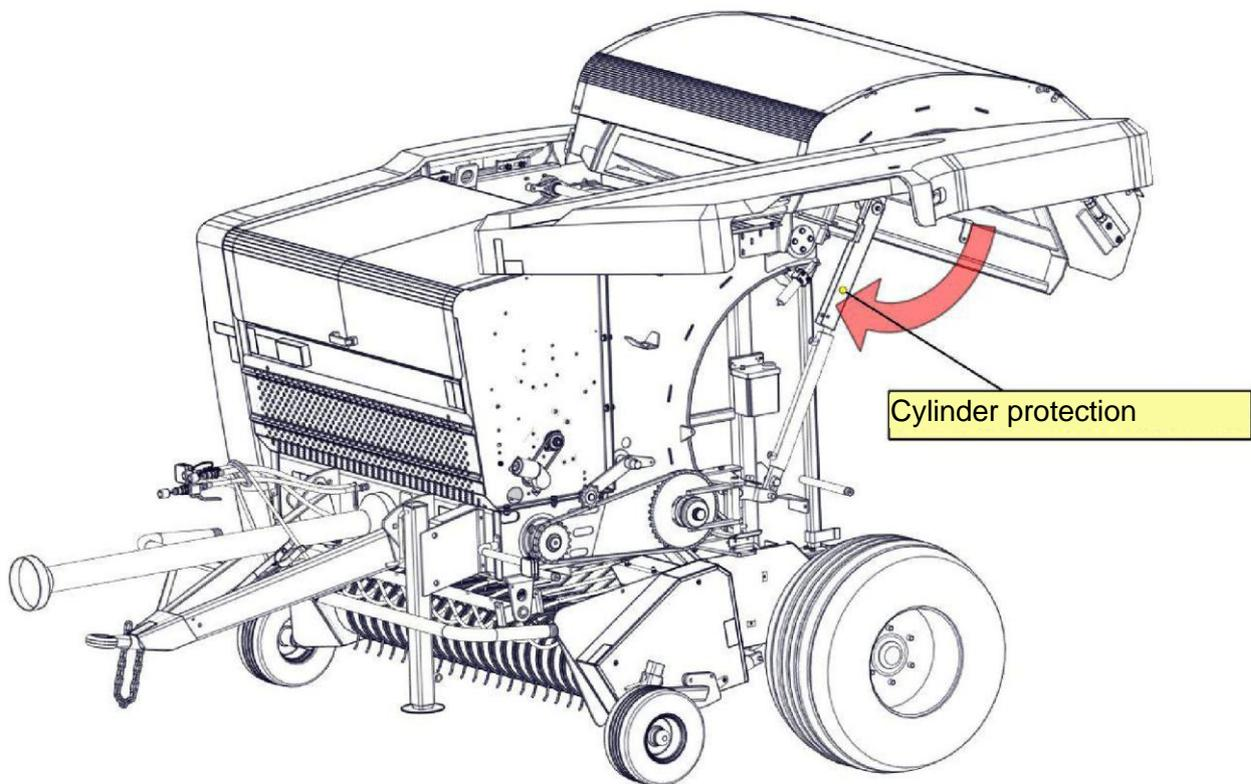

Figure 9. Locks for securing the cylinders
- Lock the cylinders by means of protection locks (**Fig. 9 and 10**);